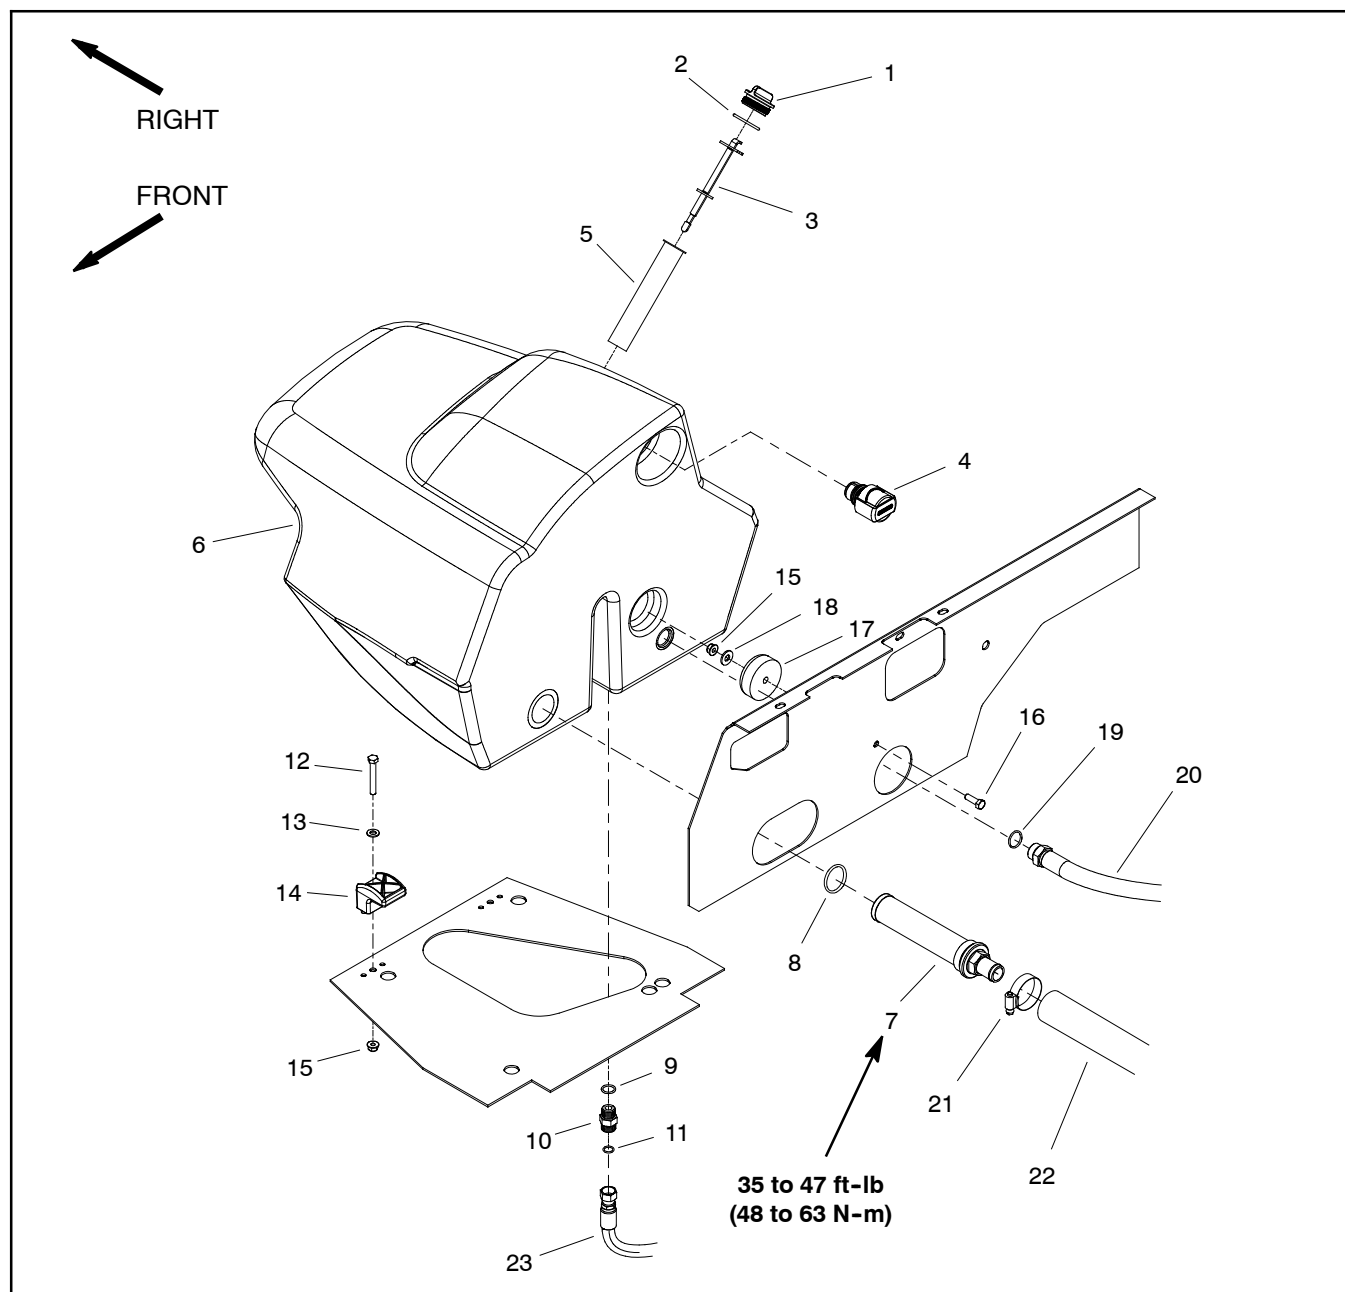

Figure 126
**Removal (Fig. 126)**
4. To allow draining of hydraulic reservoir, disconnect the hydraulic hose (item 23) from the fitting in the bottom of the reservoir. Drain reservoir into a suitable container.
6. Remove hydraulic reservoir using Figure 126 as a guide.
**Installation (Fig. 126)**
1. If fittings were removed from reservoir, lubricate and place new O-rings onto fittings. Install fittings into reservoir openings. If reservoir strainer (item 7) was removed from reservoir, torque strainer from **35 to 47 ft-lb (48 to 63 N-m)**.
2. Install reservoir using Figure 126 as a guide.